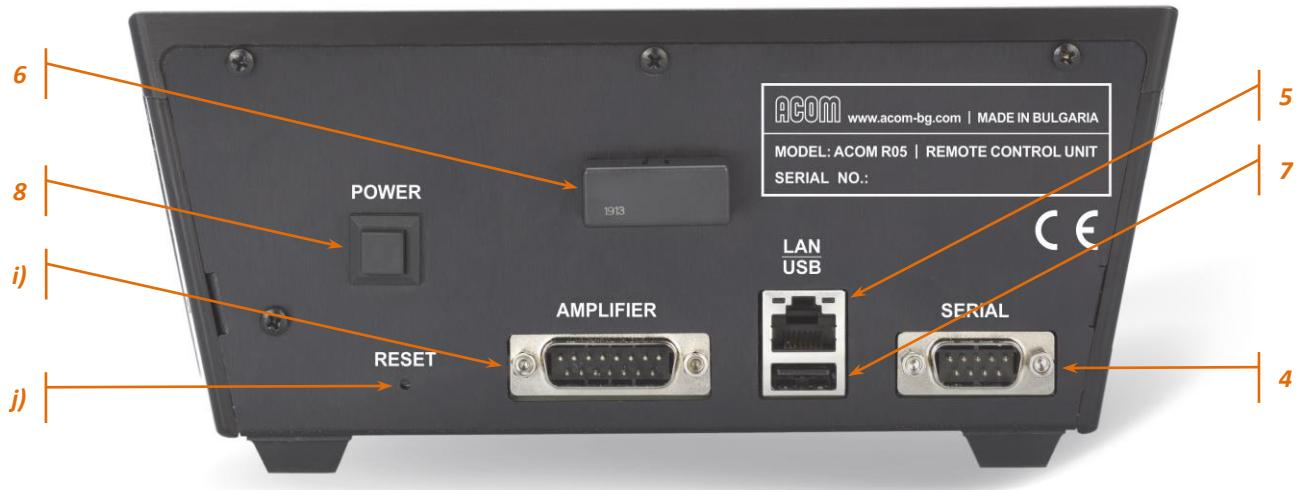

Figure 2-5 RCU model R05 rear panel
Please, see Figure 2-3 Amplifier rear panel - Connections and Figure 2-5 RCU model R05 rear panel.
Connect the ACOM 2020S to RCU connection cable (part of delivery - see 1.3 Equipment Supplied, Pos. 3) from the connector **RCU** (see Figure 2-3 Amplifier rear panel - Connections, Pos. (f)) to the connector **AMPLIFIER** located on the RCU rear panel (see Figure 2-5 RCU model R05 rear panel, Pos. (i)).
Please, see Figure 2-5 RCU model R05 rear panel, Pos. (i).
Please, see Figure 2-5 RCU model R05 rear panel, Pos. (j).
Please, see Figure 2-5 RCU model R05 rear panel, Pos. (4) and Table 2-2 Signals and pin out of the RCU SERIAL connector.
Please, see **Figure 2-5 RCU model R05 rear panel**, Pos. (5) and **Table 2-4 Signals and pin out of the LAN socket**.
Please, see **Figure 2-5 RCU model R05 rear panel**, Pos. (6).
Please, see **Figure 2-5 RCU model R05 rear panel**, Pos. (7) and **Table 2-5 Signals and pin out of the USB type A socket**.